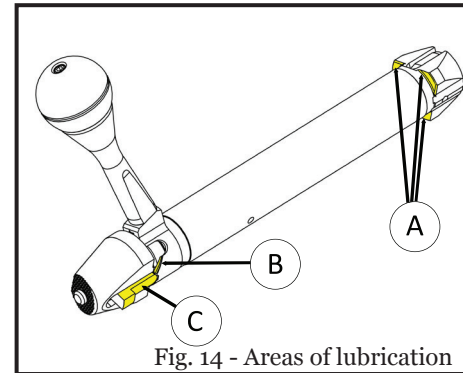

Fig. 14 - Areas of lubrication
- Make sure that areas A-C (Fig. 14) are all lightly greased.